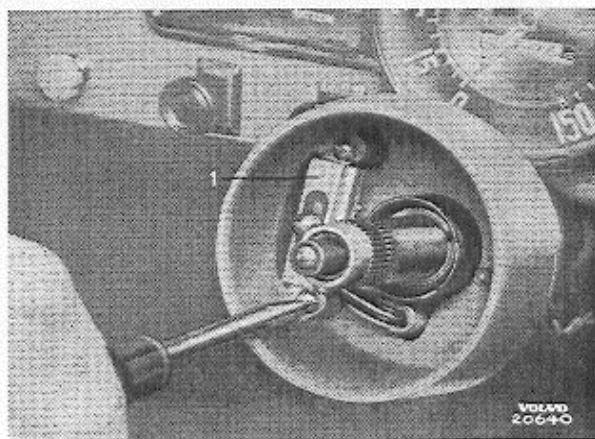

Fig. 28.
3. Remove the two screws which hold the switch (1, fig. 28) in the housing.